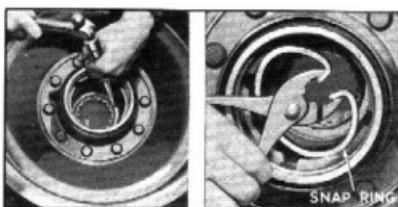

Fig. 17—Removing Outer Bearing Snap Ring
- To remove the outer bearing, first tap the outer race to relieve the tension at the snap ring; then remove the snap ring on the inside of the hub, Fig. 17. Remove the bearing by driving on the